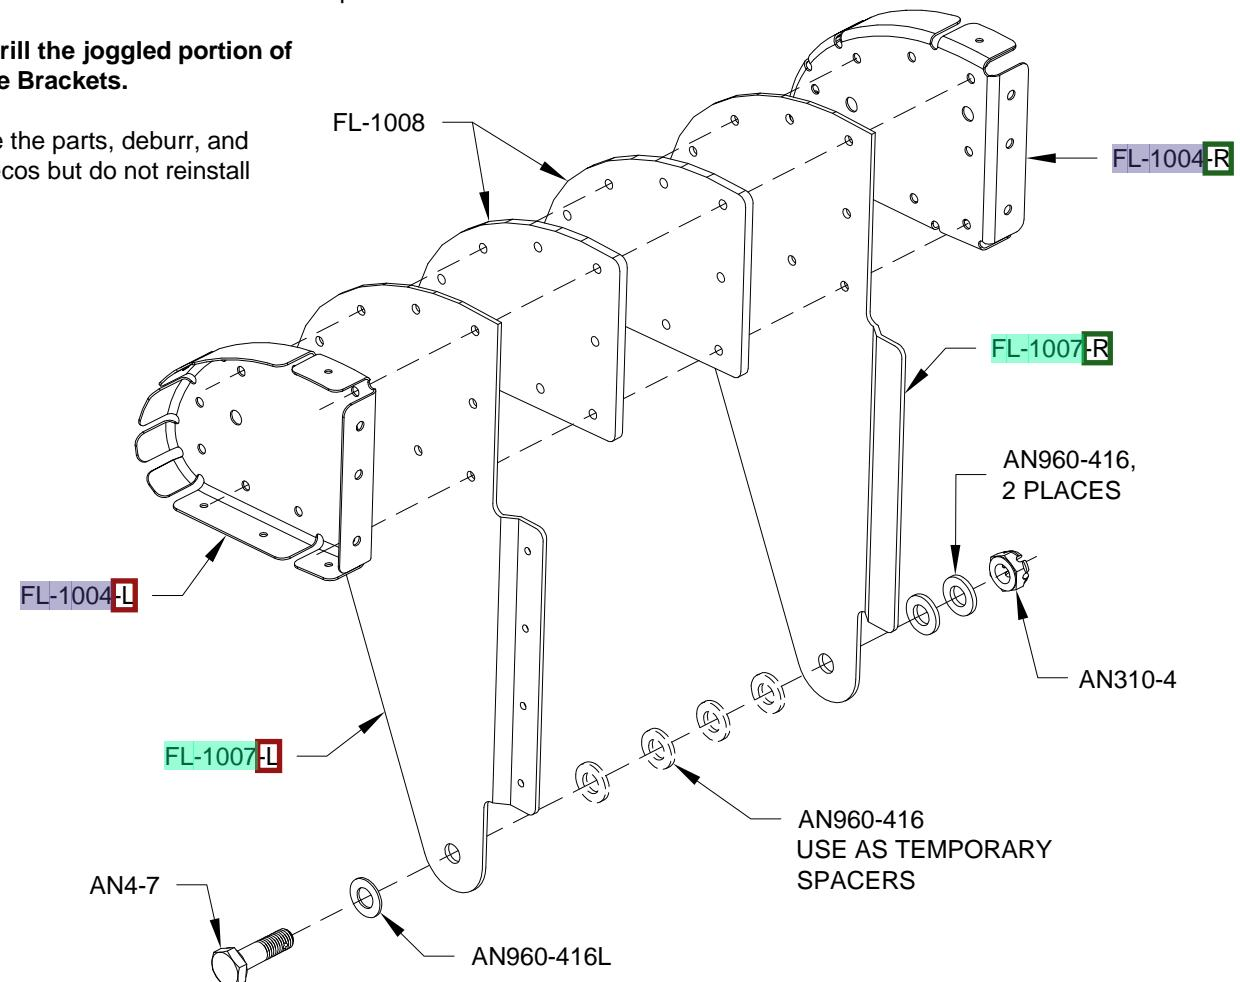

FIGURE 4: CENTER HINGE SUBASSEMBLY
Step 4: Cleco together the center hinge subassembly using the parts shown in Figure 4. Space the FL-1007-L & R Hinge Brackets using the washers shown and insert a 1/4 in. bolt to maintain alignment.